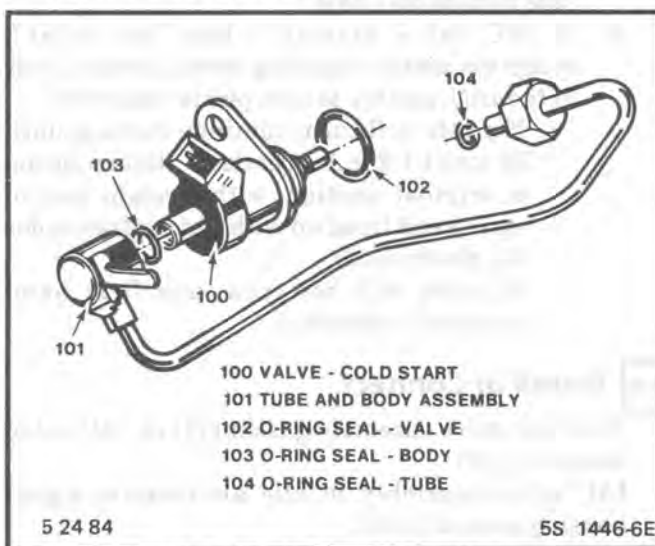

Figure C2-13 Cold Start Valve Assembly
**Cold Start Tube And Valve Assembly (Figure C2-13)**
7. Valve from tube and body assembly (101). Bend tab back to permit unscrewing of valve.